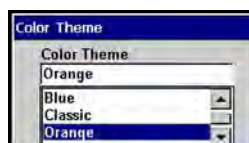

Figure 5-60 Sample Color Theme dialog box
2. Press **Y/✓** to open the drop-down list (Figure 5-60).